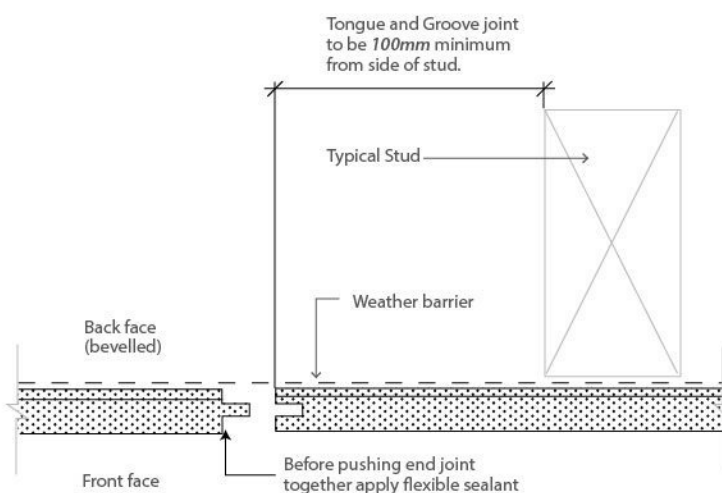
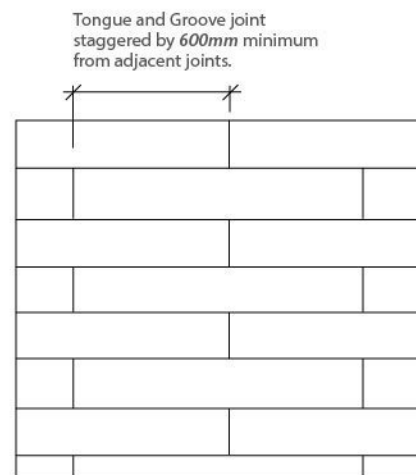

Figure 5 : Tongue and Groove Joint
Figure 6 : Staggered Joints
12. The ends of **PRIMA^{alpha}** WeatherClad are joined off-stud by means of tongue and groove edges. The tongue and groove joints must be at minimum of 100mm from the side of a stud, refer **Figure 5**. Joints must be staggered by a minimum of 600mm from the adjacent joints, refer **Figure 6**.